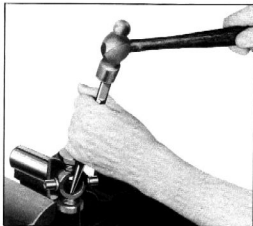

Fig. 40—Disassembly of Universal Joint
5. Remove the lock rings from the trunnion bearings and drive the caps from the yoke, using a drift punch in the center of the trunnion as shown in Fig. 40. After the trunnion has been driven down to the yoke, raise the trunnion and slip a flat washer 15/16" in diameter over the bearing. Again drive on the center of the trunnion until the bearing is free of the yoke. This method prevents cocking the bearing, which would result in damage to both the yoke and the bearing.